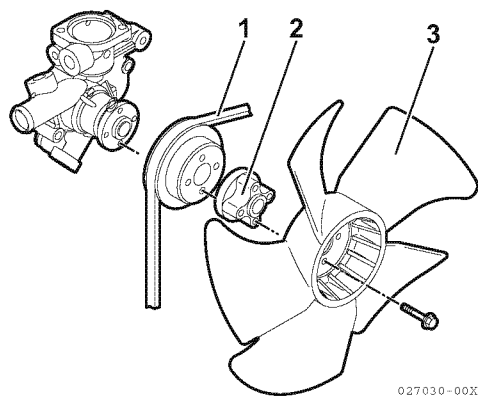

Figure 9-9
7. Install the coolant pump V-pulley (**Figure 9-9, (1)**), spacer (**Figure 9-9, (2)**), coolant fan (**Figure 9-9, (3)**) and fan guard (if equipped).